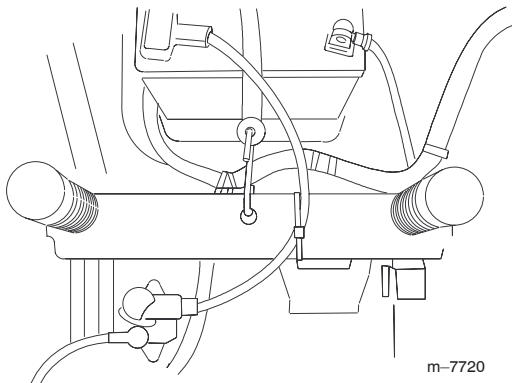

Figure 3
8. Install the battery in the tractor and connect the battery cables. Route the battery cable from the positive battery post to the solenoid. Ensure the cable is routed above the crossbar and between the seat supports as shown in Figure 3.